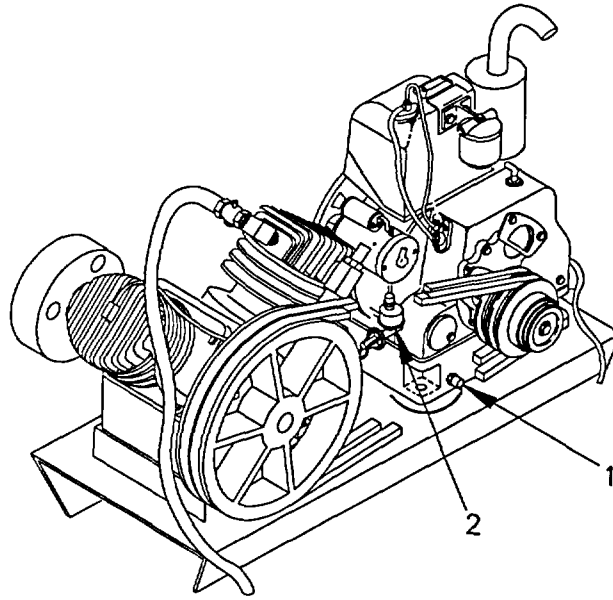

Figure 2-8. Safety Devices
h. Safety Devices. (Refer to Figure 2-8).
- (1) High Oil-Temperature Shutdown Switch (1). Shuts unit down when oil pressure reaches unsafe limits
- (2) Low Oil-Pressure Shutdown Switch (2). Shuts unit down when oil pressure reaches unusable limits.